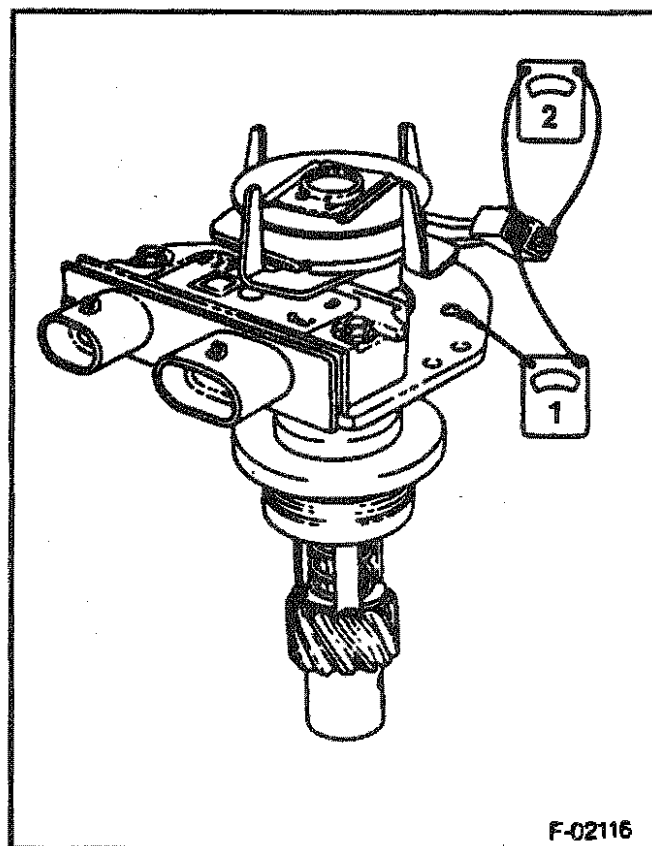

Figure 27 - Testing the Pickup Coil (Typical)
2. Connect an ohmmeter as shown in Figure 27, Step 1. Use the high scale. The reading should be infinite. If not, replace the coil.
3. Connect the ohmmeter as shown in Step 2 (Figure 27). Use the low scale. The reading should be very low or zero. If not, replace the coil.
- Connect an ohmmeter to both pickup coil leads as shown in Figure 27, Step 2. Flex the leads by hand at the coil and the connector to locate any intermittent opens. The ohmmeter should read a constant unchanging value in the 500 to 1500 ohm range. If not, replace the coil.